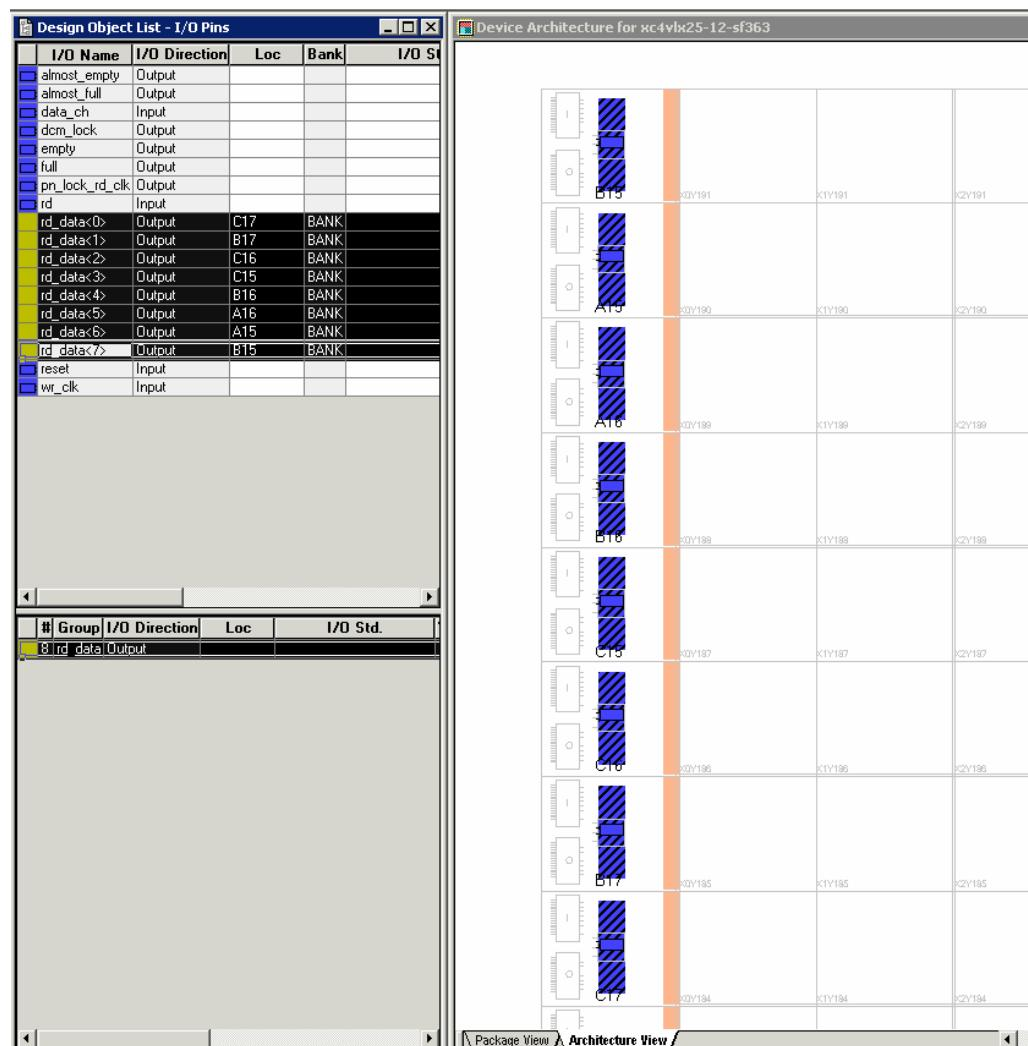

Figure 1i-5. Design Object List – I/O Pins Window
- 5 Drag and drop the I/O signal from the Design Object List window to the following locations in the Device Architecture window (**Figure 1i-5**):